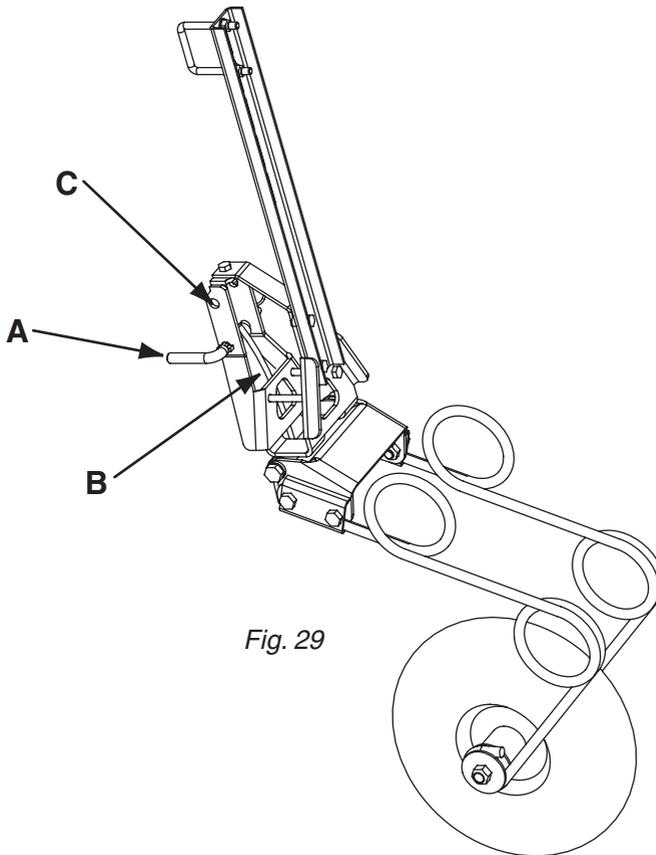

Fig. 29
1. Remove locking pin (A)(Fig. 29).
2. Move wheel position bar (B)(Fig. 29) to upper position (C)(Fig. 29), and insert locking pin.